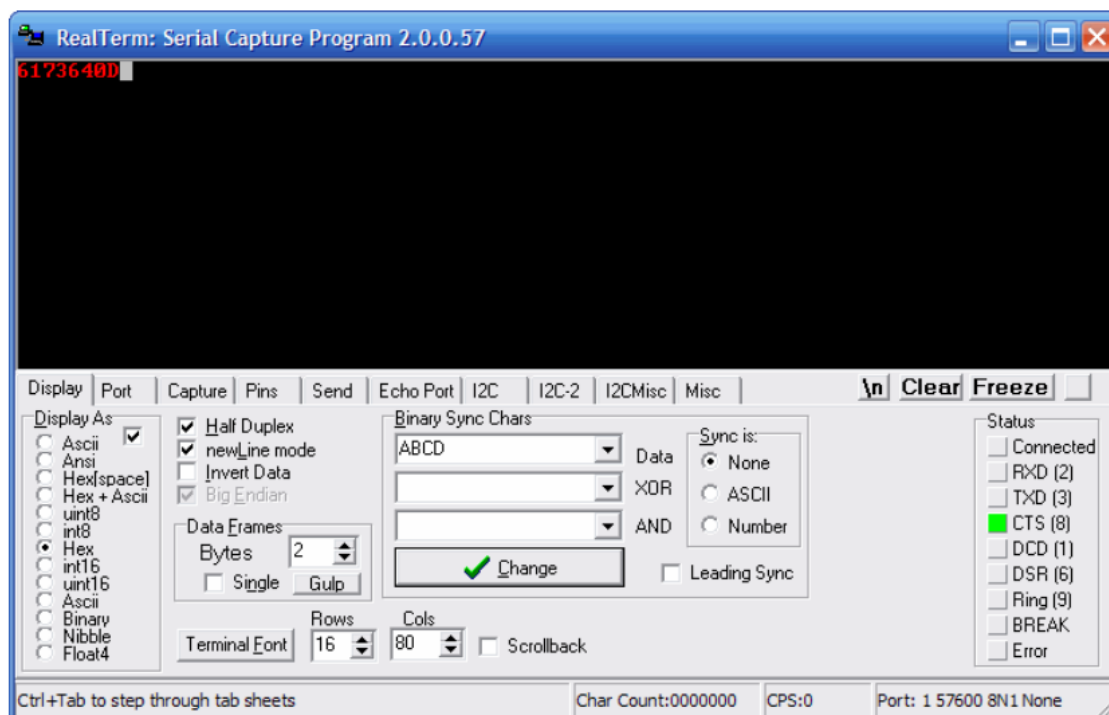

Figure 2: RealTerm: Serial/TCP Terminal
- iii) For recognizing inputs from the board and capturing to text file in PC through the serial terminal, you need to use the **Realterm** software (or any equivalent software). This software will also be used to display the messages received from the Pt-51 kit on the PC. A screenshot of **Realterm** window is shown in Figure 2.